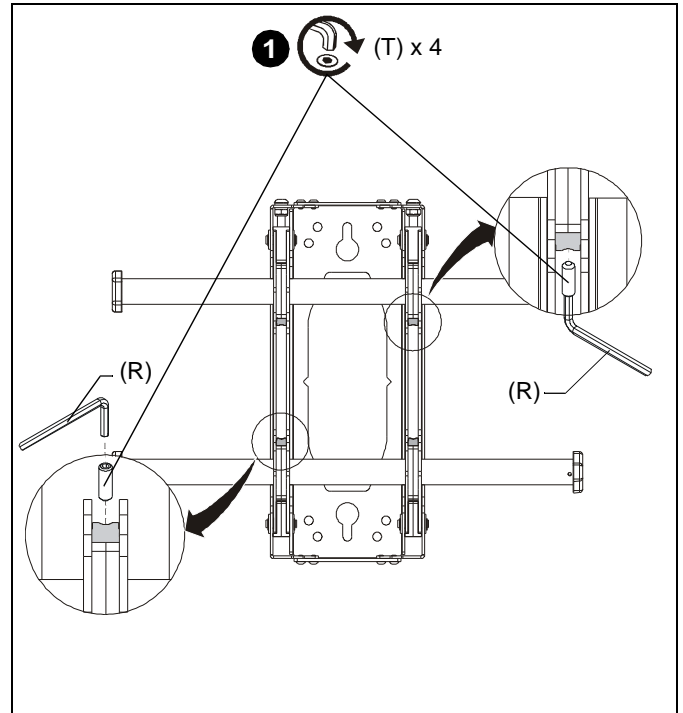

Figure 4
1. Lock rails into place using two 1/4-20 x 3/4" set screws (T) on mount upright (X) and the 1/8" hex key (R). (See Figure 4)